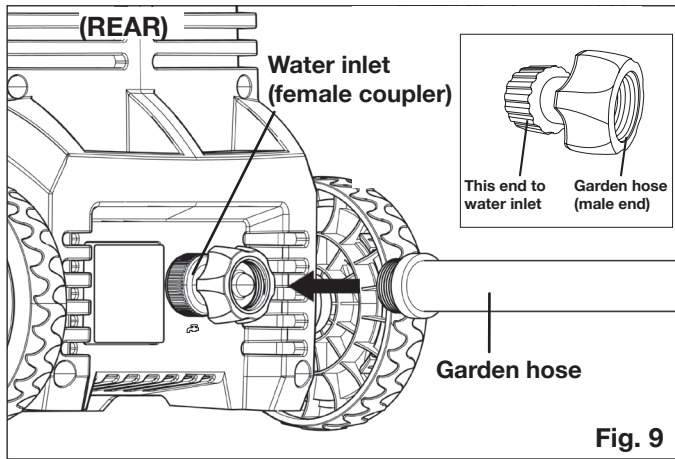

Fig. 9
9. Connect the garden hose adaptor (female coupler) to the water inlet of the pressure washer, then thread your garden hose (male end) into the garden hose adaptor (Fig. 9). The garden hose must have an internal diameter of at least 13 mm (1/2 in.) and must be reinforced. The water supply must be at least equal to the washer delivery capacity.